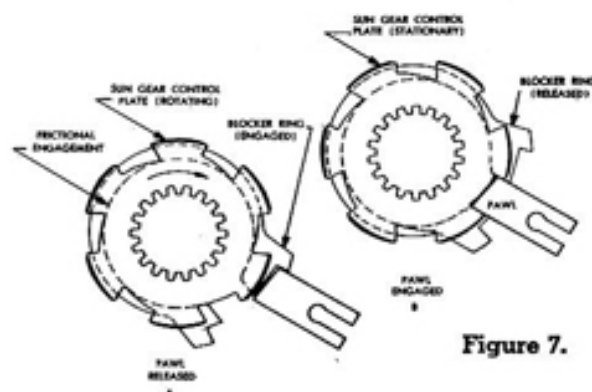

Figure 7.
movement (Fig. 7-a). When the car reaches a predetermined speed (the "cut-in" speed, which varies between 20 and 32 mph, according to car make and model) the governor contacts close, acting through the overdrive electrical circuit to energize the solenoid. The latter sets up a spring pressure against the pawl, tending to push it into engagement. This movement is prevented by the blocker. However, the driver, either unconsciously, or consciously, and according to his own choice, may momentarily close the throttle, whereupon the roller clutch releases, and the engine slows down. At the same time, the sun gear slows down, more rapidly, so that the sun gear passes through the stand-still condition when the engine speed has fallen 30%, and then reverses its motion. Upon the instant of reversal, the blocker ring, moved by its frictional drive from the control plate hub, also rotates slightly in this direction and releases the pawl which snaps into the first notch of the backwardly-rotating control plate (Fig. 7-b). The extreme rapidity of this action insures that the control plate cannot rotate backward more than 1/3 turn at the most; usually, it will be less. This engagement, at nearly perfect synchronism, accounts for the smooth action of this control. Once engaged, under the conditions of normal driving, the overdrive is in action until the car speed falls to a value 3 or 4 mph lower than the cut-in speed, when the governor contacts open, releasing the solenoid, which withdraws the pawl (if throttle is closed), whereupon the condition of free-wheeling direct drive is resumed.
a. Occasionally, either in assembly at the factory, or in service operations in the field, the internal parts of the overdrive unit may have been rotated with the solenoid removed, and the pawl withdrawn from its normal location. This may cause the blocker ring to rotate, so that its two lugs are not located with respect to the pawl as shown in Figs. 7 and 21. In other words, the solid portion of the blocker ring may be in alignment with the pawl, which will prevent full engagement of the pawl with the sun gear control plate.
c. Rather than disassemble the entire overdrive unit, this condition may be corrected externally. With transmission in neutral, and the dash control pulled out, move car forward one full turn of the propeller shaft. Then, loosen the two solenoid capscrews as far as possible without removing, and pull solenoid out as far as it will go, and hold it there while the propeller shaft is turned forward about  $\frac{1}{8}$  turn. Then push solenoid in, and tighten capscrews. The reasons for this procedure are readily understood from a study of Fig. 7.